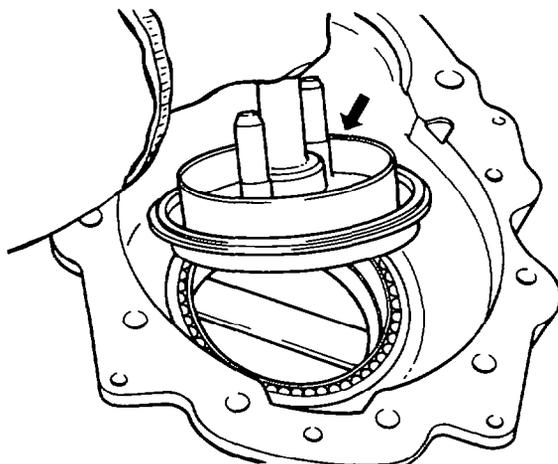

Figure 53 Installing the Large Roller Bearing
- Use Special Tool No. 9 to install the roller bearing for the hub gear into the case (see Fig 53).